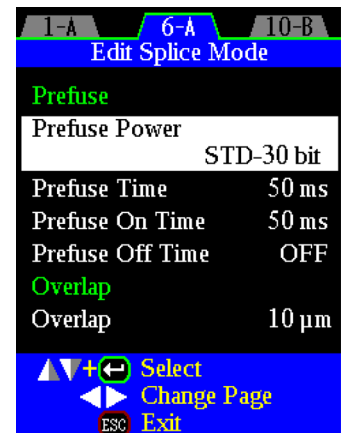

Figure 9 — Set Prefuse Power/Time
7. Proceed to the arc control settings in pages 6-A through 6-C (**Figures 9 and 10**).